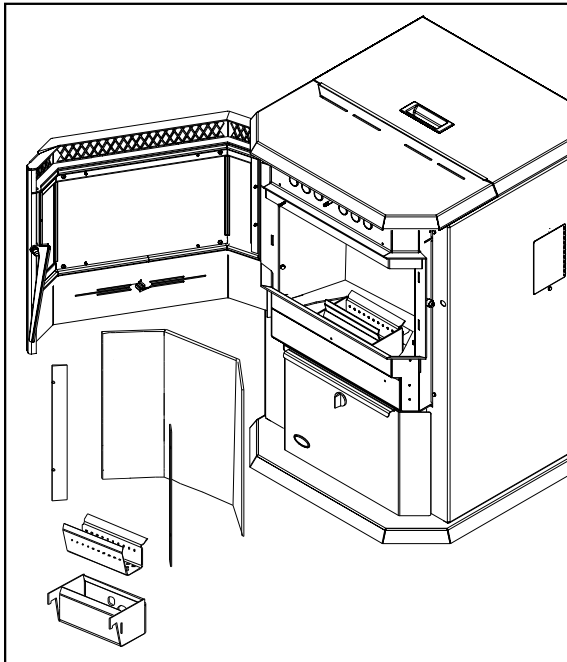

Figure 12: Firebox Components Removal.
**Removal of the firebox backing for bi-annual cleaning (refer to Figure 12):**
- Loosen (do not remove) the four (4) screws that hold the brick liner retainers in place. Remove side brick liners by sliding them from under the screwheads.
- Place the two (2) side panels back into the firebox, secure the two (2) retainers and lock down by tightening the two (2) screws on each side.